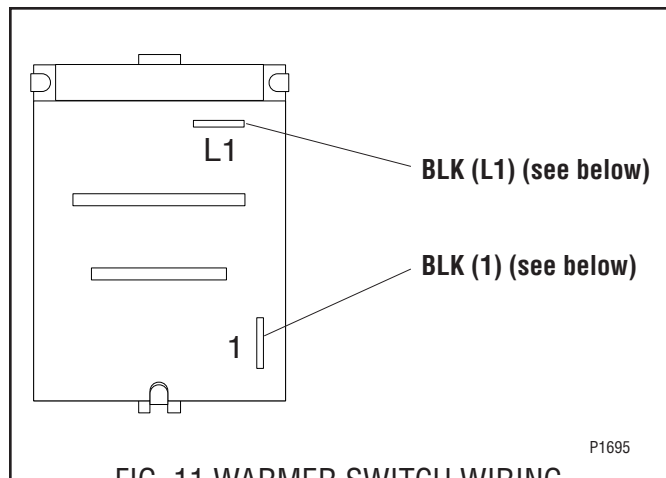

FIG. 11 WARMER SWITCH WIRING
4. Refer to FIG. 11 when reconnecting the wires.